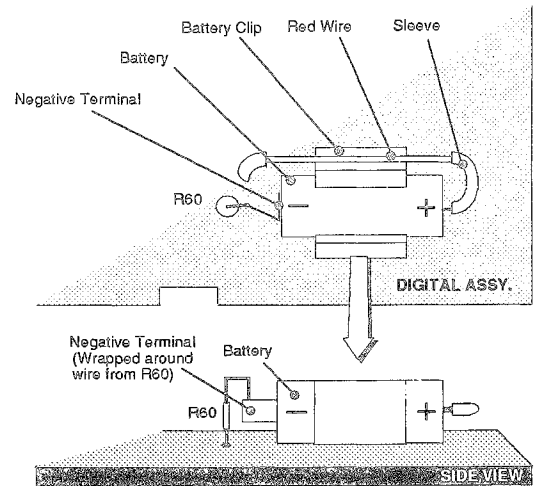

FIG. 4.1 BATTERY REPLACEMENT
- f. Remove battery (refer to Fig. 4.1).